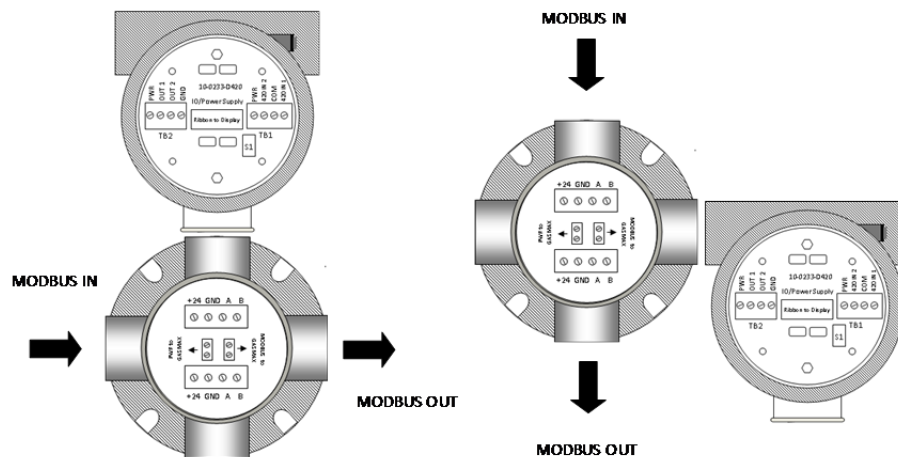

Figure 4-6: MODBUS JBOX LOCATION OPTIONS
Typical MODBUS wiring is shown in Figure 4-6. MODBUS system architecture requires that the devices in any MODBUS loop be connected in a daisy-chain layout. This minimizes signal reflections and improves signal noise margin. A MODBUS Termination Jumper installs a load resistor across the MODBUS signal lines and should only be set to “A” (ON) **at the last device in the string.**
GASMAX II monitors with remote-mount toxic sensors are shipped in two pieces and sensor wiring must be installed by the end user. Remote toxic sensors connect to the Channel 1 Simple Sensor input on the **back of the Display Assembly** as shown in Figure 4-6.